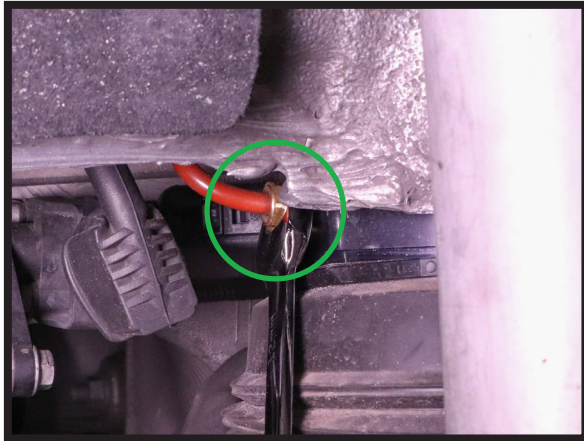

FIGURE 2
3. DISCONNECT THE AIR LINE USING A WRENCH. REMOVE AIR LINE FITTING AND DISCARD. (FIGURES 2, 3, 4)